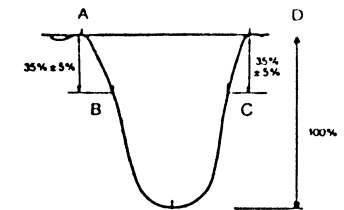

Fig. 14 Illustration for balance between VIF and colour signal (Refer to table 1)
6. Adjust the core (FL403) in the tuner section shown in Fig. 14